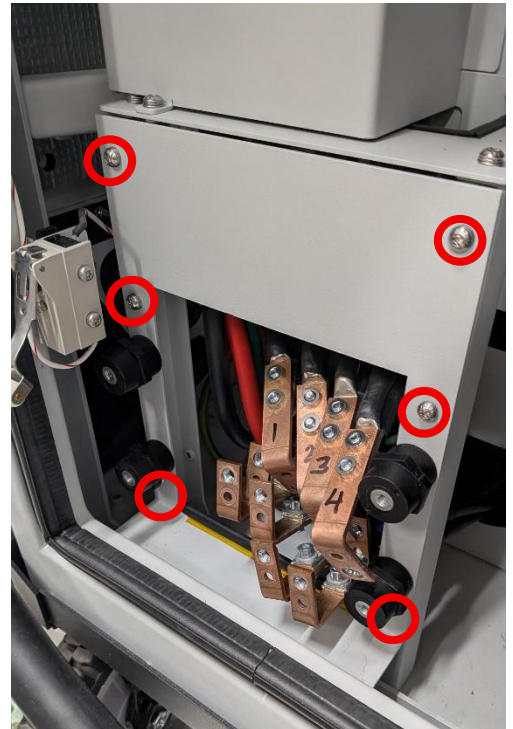

Figure 27
30. Inside the front door and using the 6 original T25 Torx screws, reinstall the powder-coated plate with 4 black standoffs attached (shown in Figure 27).